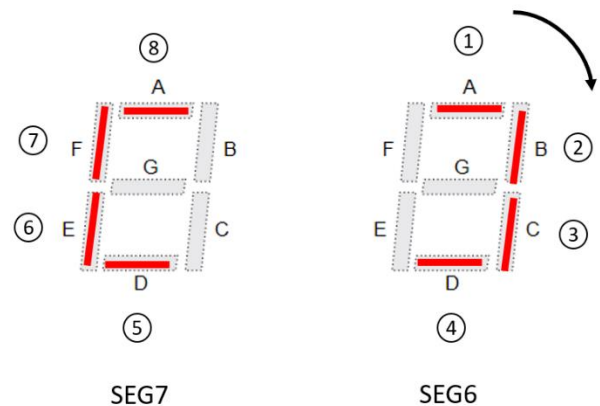

Figure 1: Rotation clockwise when rotation_input is 1
- h. Rotation of light is the status when the light circulates on the two 7-segments (seg6 and seg7) without going through the middle segment (G) and half of the segment as shown in Figure1.